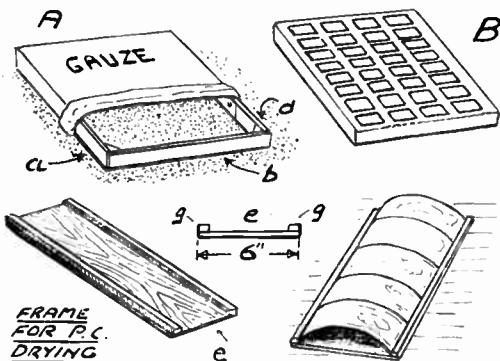

Fig. 1—Frames and materials
The ideal condition is to get air, either warmed or at usual room temperature, all round the prints as they lie in a horizontal position and to this end fine gauze or butter muslin is a great help. This is stretched over a simple frame as (A) in Fig. 1, and the prints are laid out to dry on the taut material, as (B).